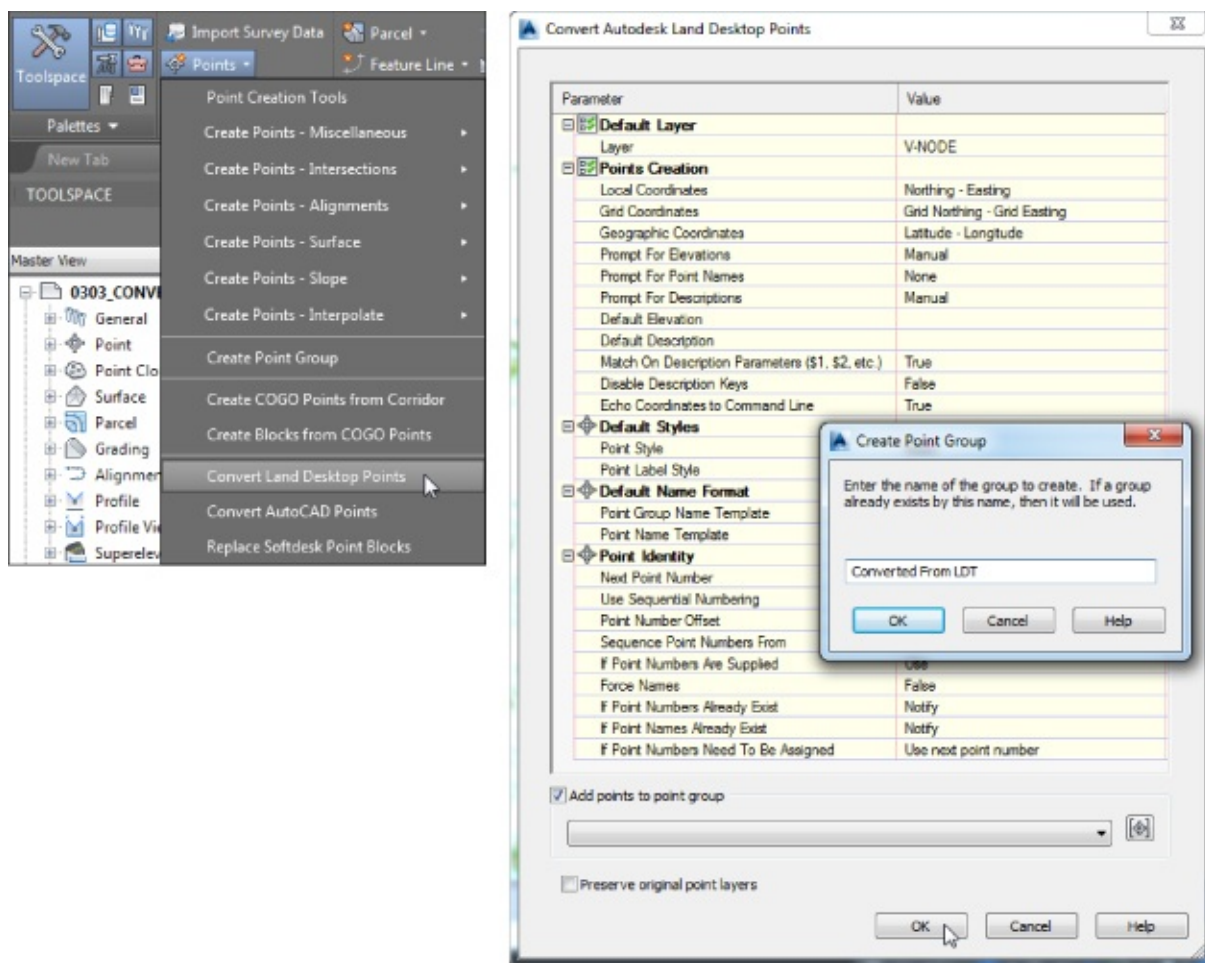

Figure 3.8 Selecting the Convert Land Desktop Points option (left) opens the Convert Autodesk Land Desktop Points dialog (right).
Land Desktop point objects, which appear as `AECC_POINTS` in the AutoCAD Properties palette, can also be converted to Civil 3D points via the **Convert Land Desktop Points** option (see Figure 3.8). Upon their conversion, this tool gives you the opportunity to assign styles, create a point group, and more.
6. Name the group **Converted From LDT**, as shown in Figure 3.8, and click OK.